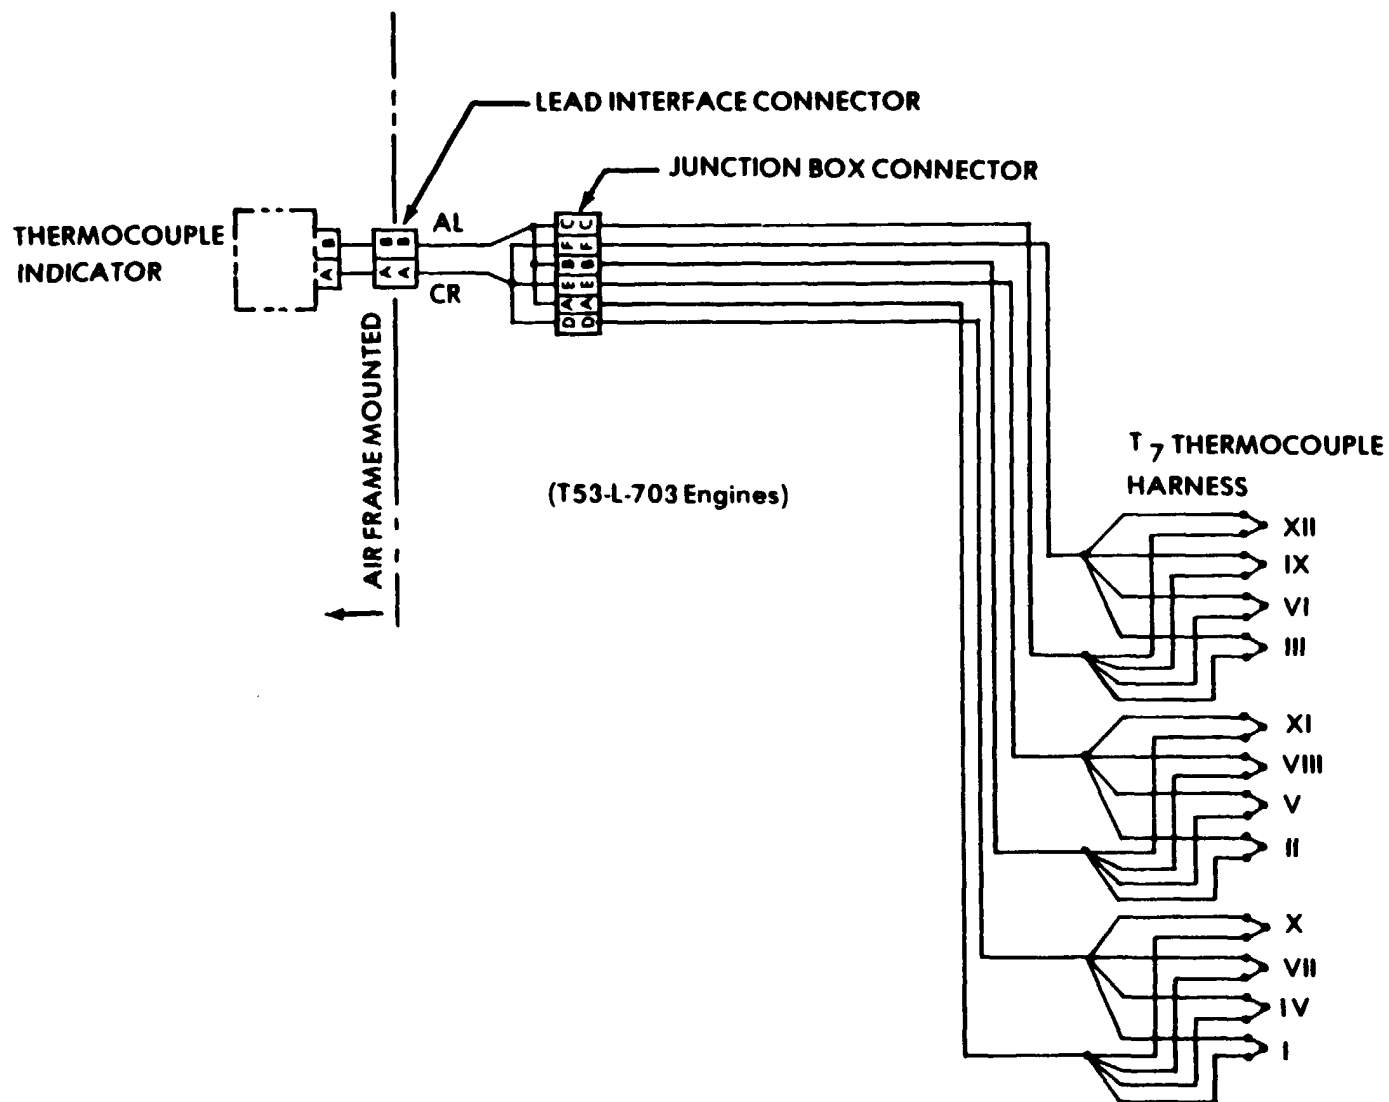

Figure 1-35A. Thermocouple Harness Assembly (T53-L-703 Engines)
(1) Perform a cockpit TGT indicator check. (Refer to applicable airframe manual and TM55-4920-244-14.)
(2) Perform thermocouple harness assembly resistance check as follows: (See figures 1-35A and 1-36.)